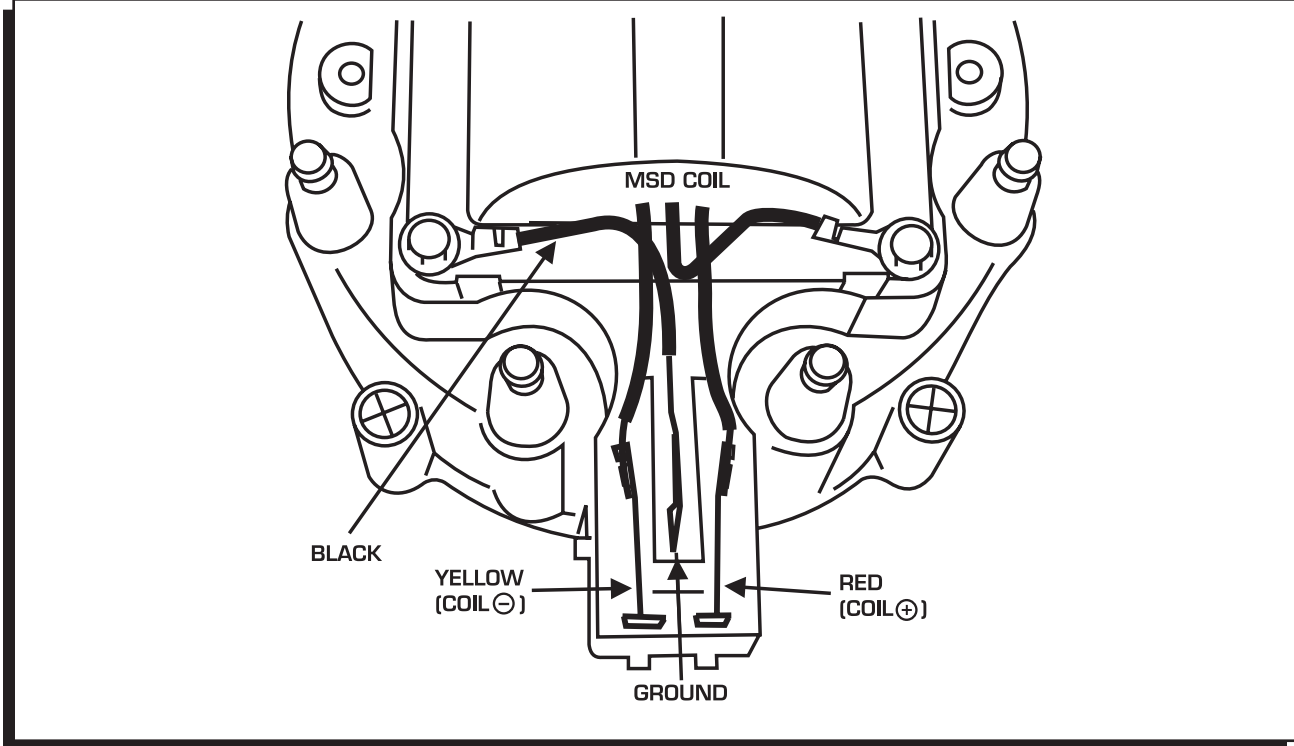

Figure 2 Wire Location.
3. Insert the Black ground wire in the center slot of the cap and connect it to one of the Coil's retaining screws (Figure 2).